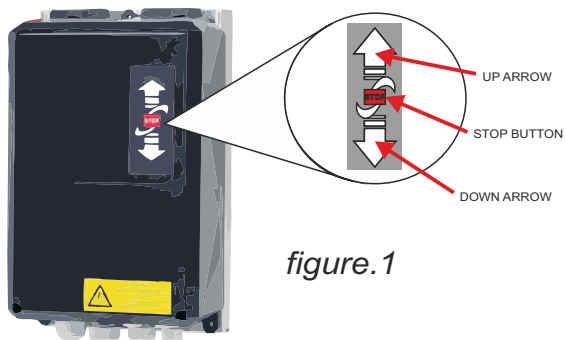

figure.1
1. 1. On the front of the panel locate the function buttons (figure.1)